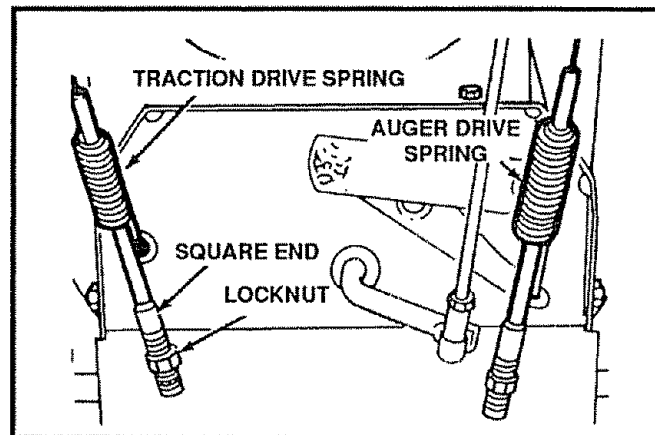

FIG. 26
- Push the cable through the spring (See Fig. 26) to expose the threaded portion of the cable.